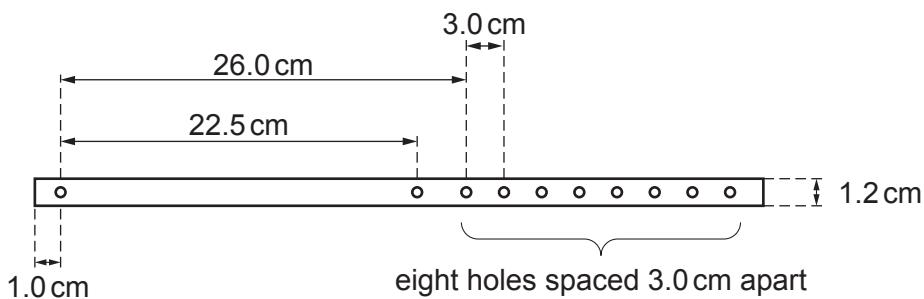

Fig. 1.1
- 1 Drill 10 holes, each of diameter 3 mm , in the wooden strip at the positions shown in Fig. 1.1.